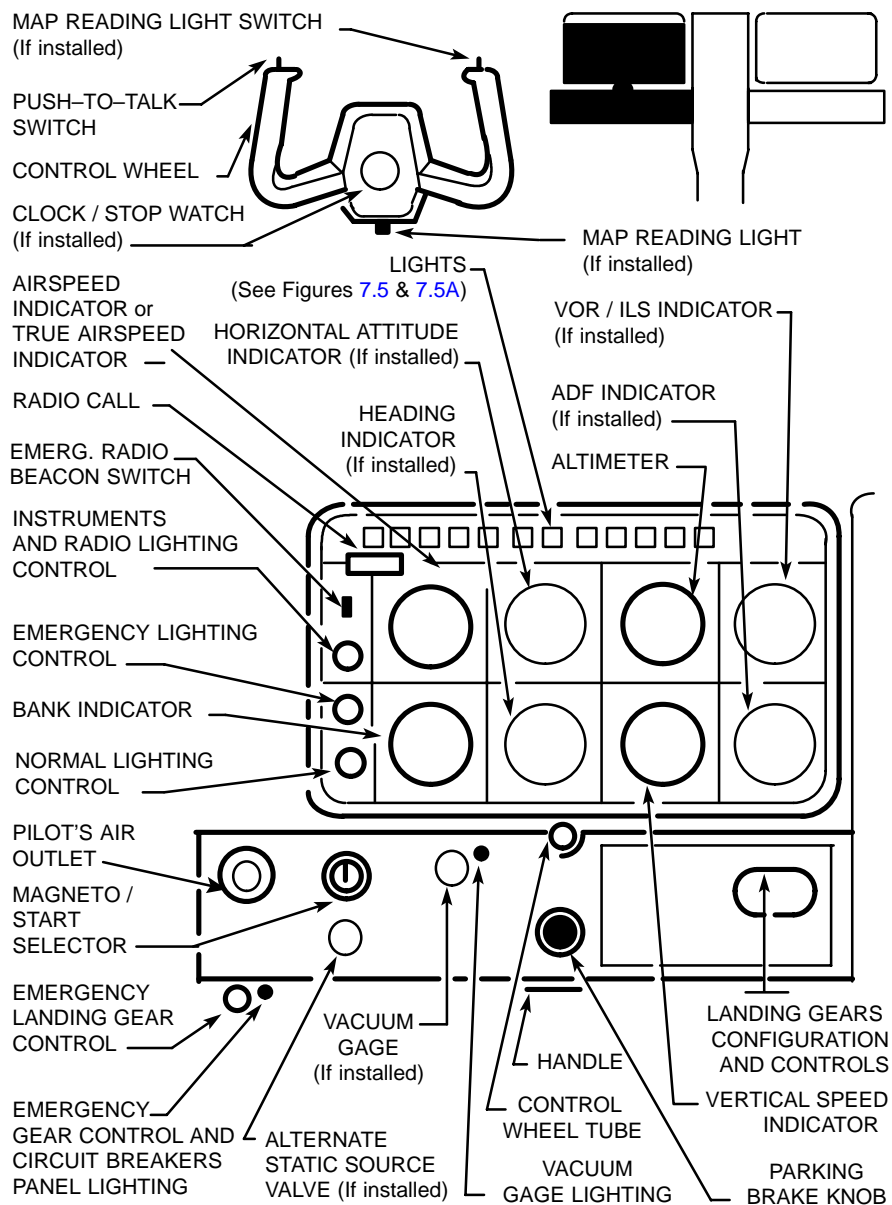

Figure 7.1 – EXAMPLE OF INSTRUMENT PANEL AND L.H. SUBPANEL
**L.H. instrument panel** (see Figure 7.1) is designed around the basic "T" configuration.
**The L.H. panel strip** (see Figure 7.1) contains from left to right : L.H. air outlet, magneto/start selector, parking brake knob, landing gears configuration and controls ; under the panel strip, on L.H. side, emergency landing gear control, on R.H. side, the "Alternate Air" control ; alternate static source valve and vacuum gage (if installed) complete the L.H. panel strip.